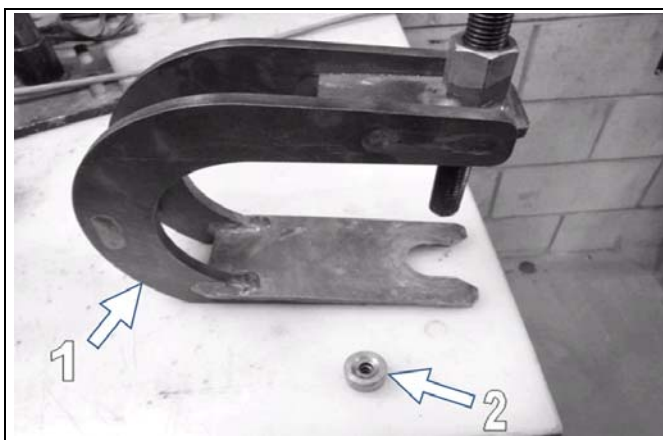

Figure 26
Use Camoplast extractor # 2000-00-1050 (article 1, Figure 26), and the following procedure to make the replacement:
- If there is no bolt, use the alignment sleeve (article 2, Figure 26) to locate the extractor.